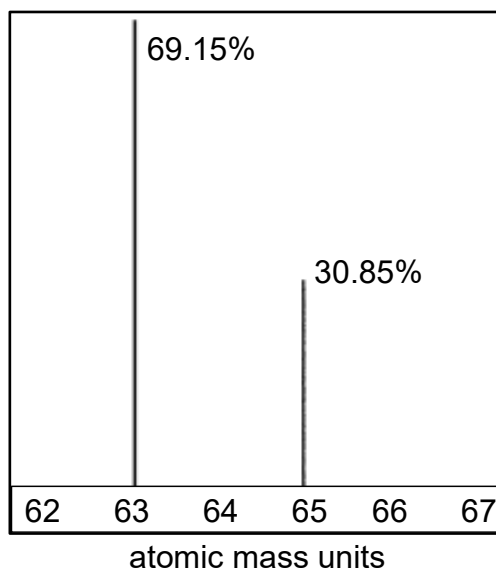

Fig. 4.1
- 4 The relative abundance of isotopes can be determined experimentally using a technique called mass spectrometry. Fig. 4.1 shows the mass spectrum of copper isotopes and their respective natural abundance.